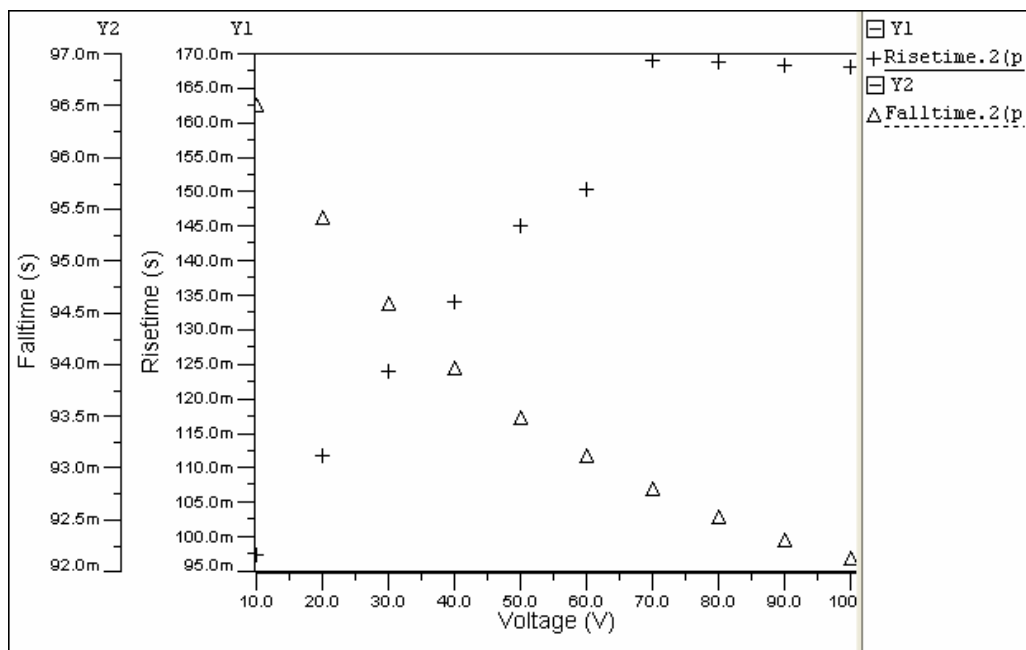

Figure 10 - Correlation Plots
8. The results are shown in Figure 10 below:
Figure 10 clearly shows the effect the value the motor winding resistance has on the shaft position when used with the H-bridge driver circuit. This is a simple example of how SystemVision can be used to turn simulation data into engineering information that can be used to help improve a mixed-technology system design.